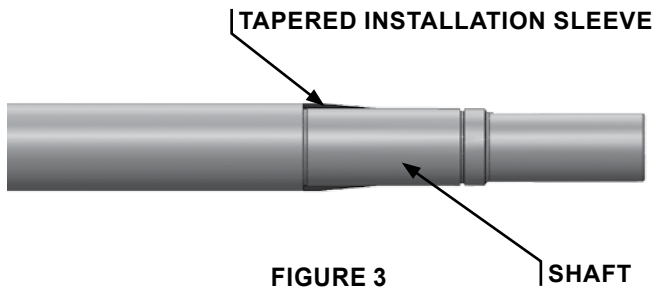

FIGURE 3
3. Place tapered installation sleeve on shaft. Coat rotor shaft, tapered installation sleeve, and O-rings in the inside diameter of cartridge seal sleeve with a generous amount of light oil. **See Figure 3.**